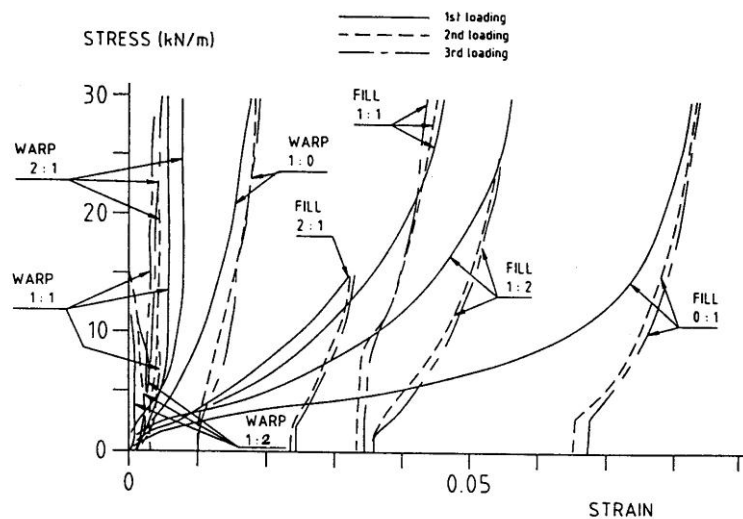

Figure 4
4. (b) Figure 4 shows a stress versus axial strain curves obtained from a bi-axial experiment carried out on a membrane specimen. Explain the main differences between the curves as shown in the figure with usual stress-strain curves for other engineering materials.